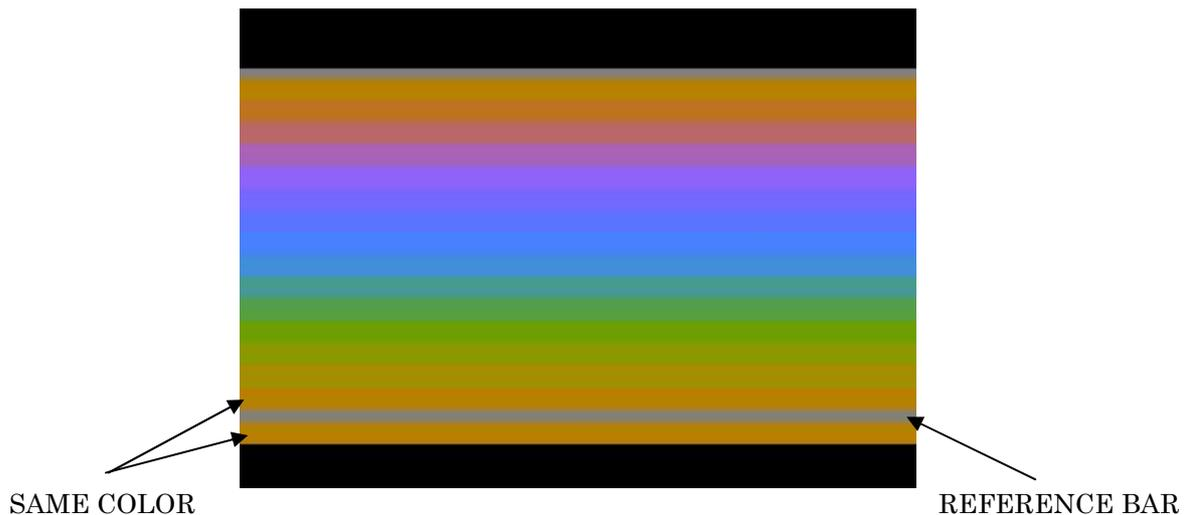

Figure 3-3 Color Bars Screen
- Format: A screen of horizontal colour bars displays (see Figure 3-3). The screen should be steady and unchanging. A grey or blue horizontal reference line runs across the screen about three bars from its bottom. This reference line is thinner than the bars around it. R8 should be adjusted so the bars immediately above and below the reference line are within one shade of each other. Proper operation of the unit is indicated by being able to make this adjustment and by consistent colour within the entire span of each bar on the screen. Minor glitches on the edges of the colour bars are acceptable. Leave this test on for at Least ten seconds in order to catch any intermittent problems, such as a bar momentarily changing colours or blanking out.